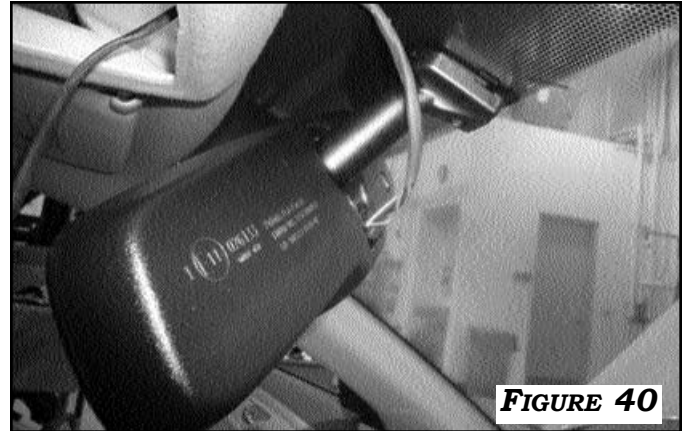

FIGURE 40
1. MOUNT REARSIGHT MIRROR ON EXISTING WINDSHIELD LUG AND TIGHTEN SCREW. **FIGURE 40**